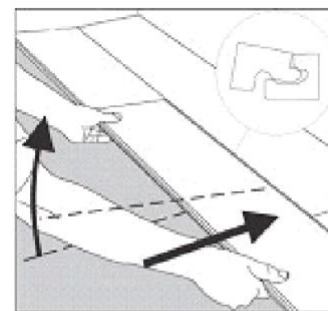

Figure 3
1. Begin the second row with the cut piece from the first row. (figure 3) If the cut piece is shorter than 30cm/300mm, do not use it. Instead, begin with a new board that is at least 30cm/300mm in length and allows 30cm/300mm between the end joints on the adjacent planks.
5. Install the remaining boards and rows in the same manner. (figure 3 and 4)